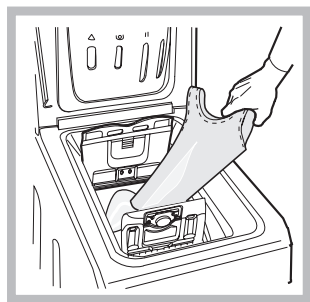

Fig. 3
**C) Loading the washing machine (Fig. 3).**